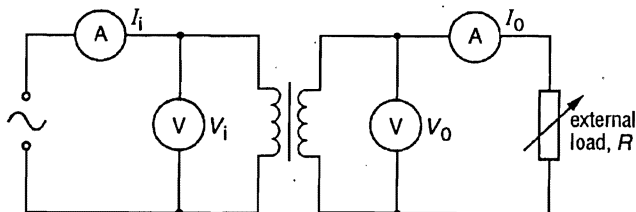

Fig. 4
- 4 This question is about the current through, and the potential difference across, the coils of a transformer. Fig. 4 shows the circuit used.